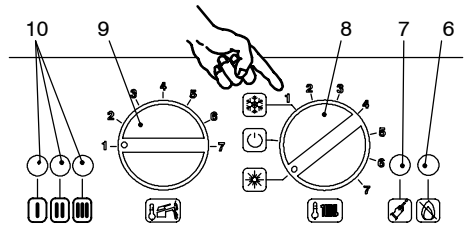
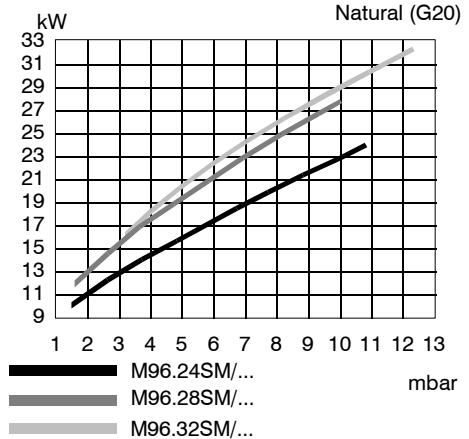
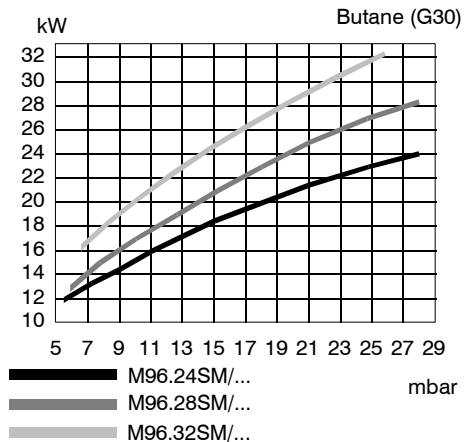
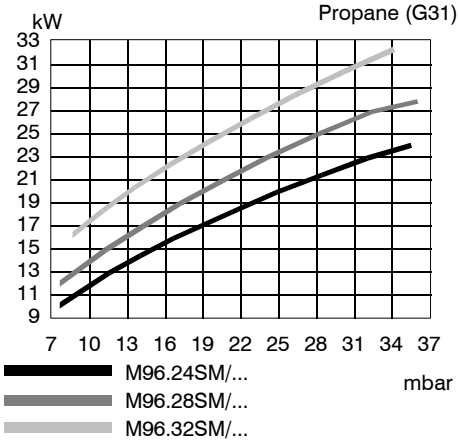

Fig. 7.6
Fig. 7.11
Fig. 7.12
Fig. 7.13
The following procedure allows the output of the boiler for central heating to be adjusted to meet the system requirement. Adjusting the useful central output does not prevent the boiler firing at maximum rate for domestic hot water production. Refer to Fig. 7.11, Fig. 7.12 and Fig. 7.13 (depending on the gas used) and determine the correct burner pressure appertaining to the output required for the central heating requirement.
- 3 Rotate the knob 9 as in Fig. 7.6
- 4 Turn the boiler ON positioning the function selector 8 as indicated in Fig. 7.6 and ensure that the timer selector switch and room thermostat, if fitted, are set to "heat demand".
- 8 Rotate the knob 9 in Fig. 7.6 to obtain the pressure to the burner to meet with the central heating system requirements. Refer to the diagrams shown in Fig. 7.11, Fig. 7.12 or Fig. 7.13